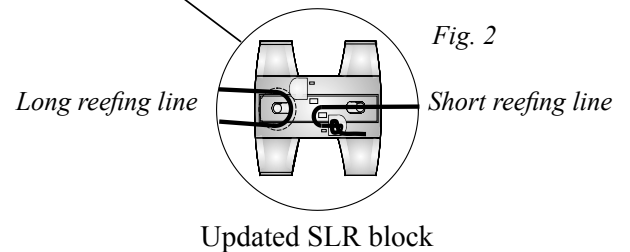

Fig. 2
- The SLR blocks are symmetric and fit in either side of the boom from the outboard end. Select one SLR block, check that the arrow on the outer face is facing upwards and on the Starboard side, and then feed the new shorter blue flecked line (reef 1) in from the front and through the central hole. Turn the line forwards inside the block and secure with an overhand knot (see fig. 2). The knot should lay into the D-shaped recess in the block, and it's short tail tucked into the cavity immediately ahead.